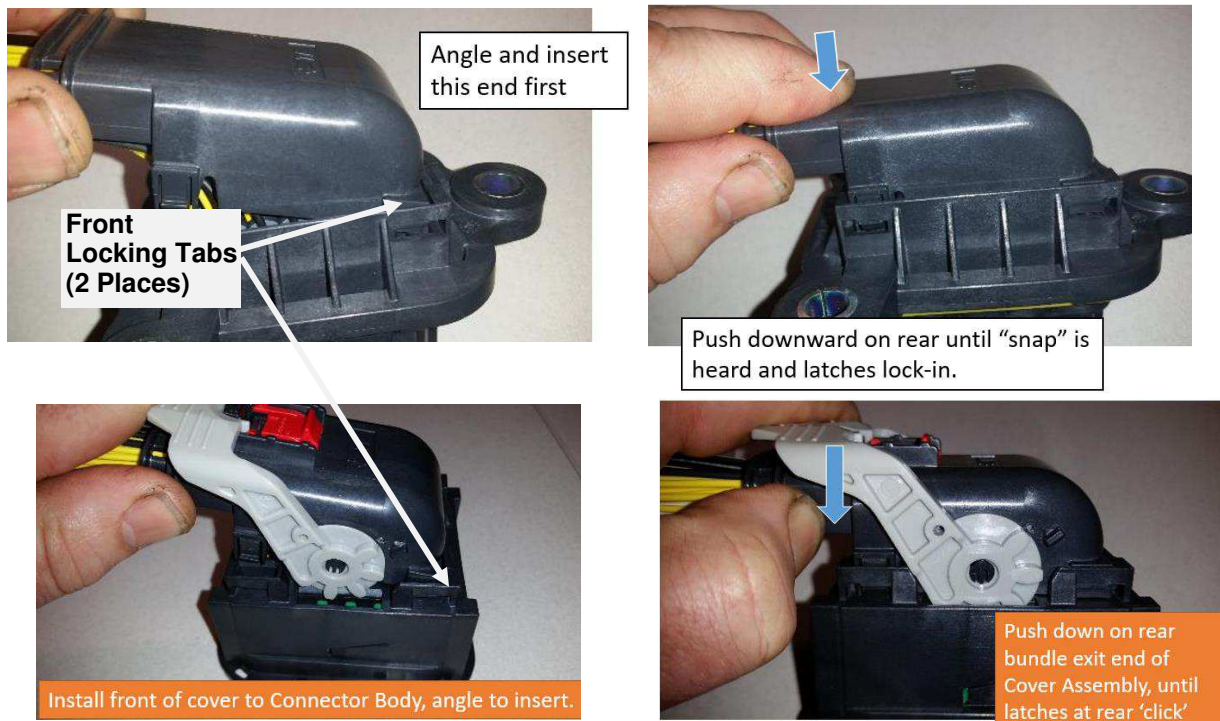

Figure 5 (Male Connector Top / Female Connector Bottom Views)
2. Align and insert the front locking tabs of the wire dress cover into the windows of the connector outer housing. See Figure 5.